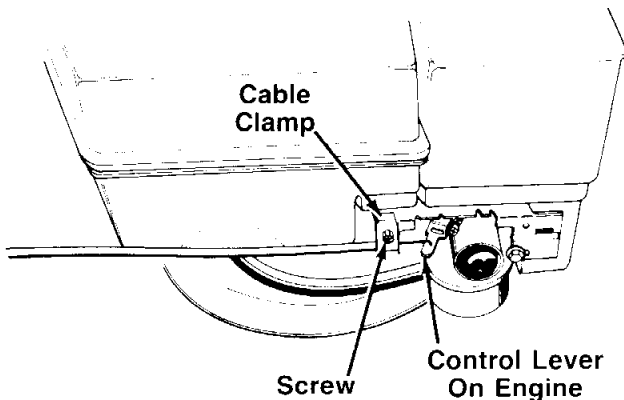

FIGURE 7.—Model 12871
2. The throttle control cable is attached to the upper handle. Route the throttle control cable under the lower handle and inside the handle wheel bracket assembly. Hook the "Z" end of the throttle control cable into the control lever on the engine as shown in figure 7.
3. Loosen (do not remove) the screw on the cable clamp shown in figure 7. Slip the control casing under the clamp (cable must move freely beneath the clamp).